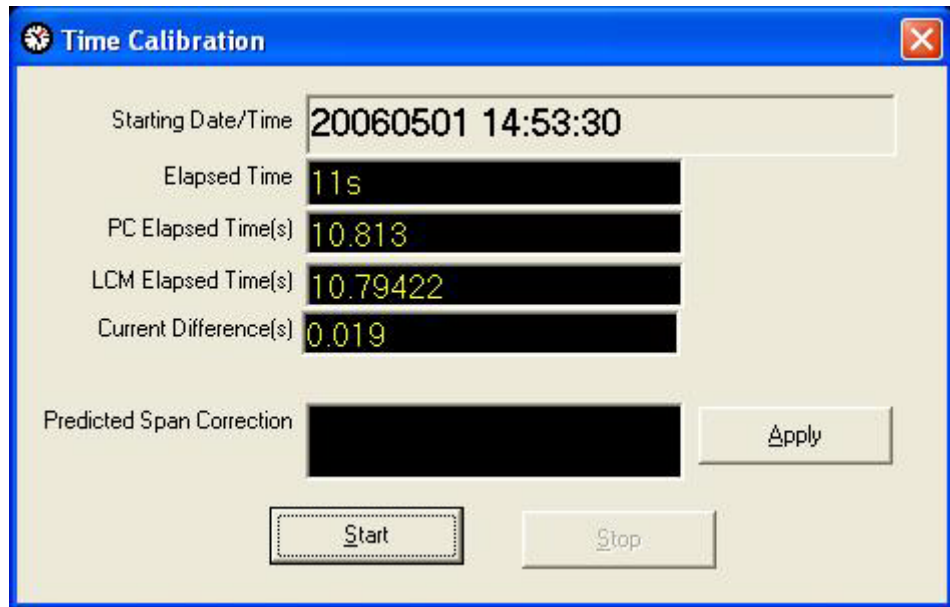

Figure 111. Time Calibration window
The **GFS Tools [Tools][PC Timer Calibration]** menu choice is provided to adjust and/or compare the internal clock of the host PC to the calibrated clock of the LCM (see Figure 111). The internal clock of the host PC is used to integrate flow from a DUT to obtain a mass. For this reason, it is important for the PC clock and LCM clock to agree. However, perfect agreement is not critical. Flow is inherently an average quantity. Integrating a flow that updates ever second with a time that has error off  $\pm 5$  ms will not yield a significant flow integration error.
- ❶ In GFS Tools select **[Tools]**, **[PC Timer Calibration]** (see Figure 111).
- ❷ In the **Timer Calibration** window, click the **Start** button.
- ❸ Allow at least three hours to elapse, and then click the **Stop** button.
- ❹ The **Predicted Span Correction** should be between 0.999900 and 1.000100. If it is not within these limits the LCM frequency can be more accurately checked or adjusted by the instructions in Section 7.5.3.3.